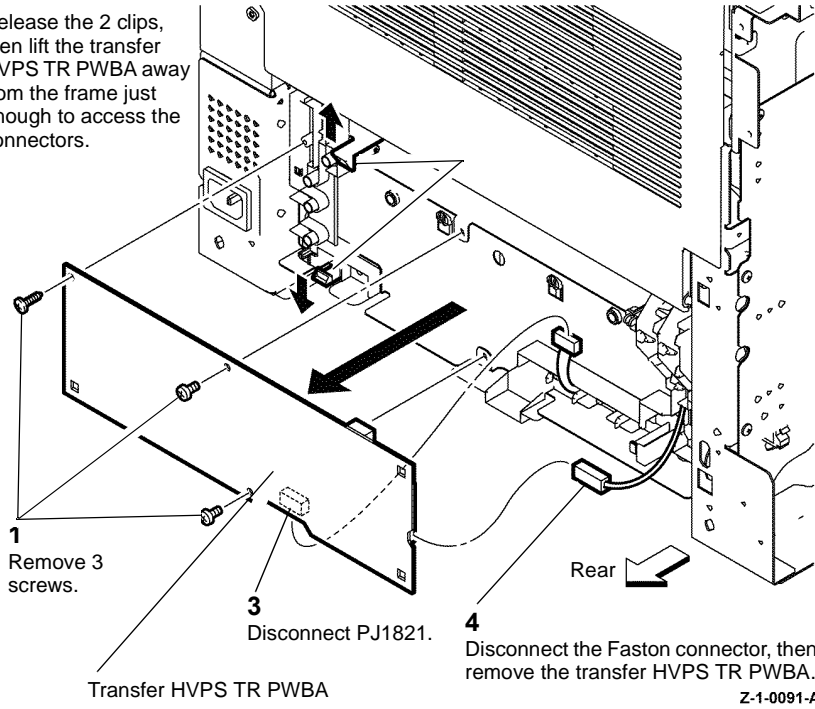

Figure 3 Transfer HVPS TR PWBA
6. Remove the transfer HVPS TR PWBA, Figure 3.